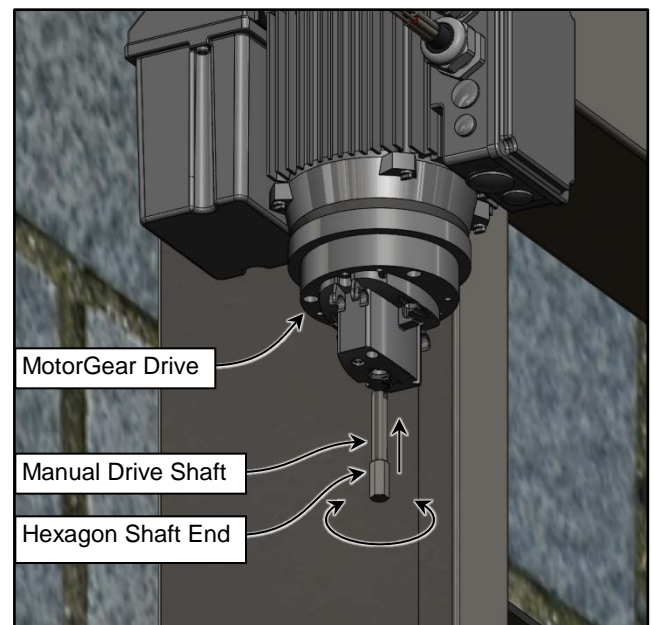

Figure 85
This Rytec door is equipped with an electric motor brake system that stops the motor and doesn't allow it to freely travel when not running. It may be operated manually. The standard motor contains a shaft driver which may be inserted into the motor end as shown and turned w/ a wrench to move the door. Simply lock the drive into place into the motor and turn the desired direction. (See Figure 85)
1. Pull the red handle on the motor assembly to disengage the electric motor and engage the chain hoist. (See Figure 85)